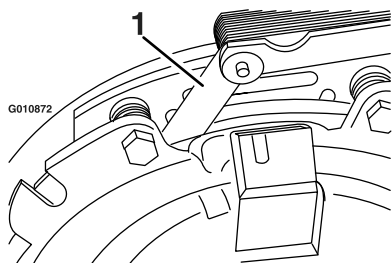
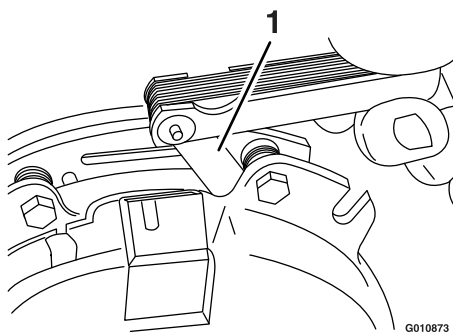

Figure 75
Figure 76
- E. Using a 0.010 inch thick-feeler gauge, verify that a gap is present between the rotor and armature face on both sides of the brake pole as shown in Figure 75 and Figure 76.